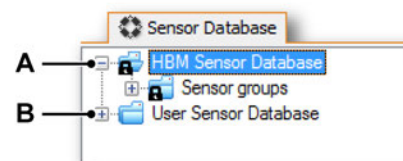

Figure 2.10: Sensor Database (Separated view)
- The database view, in which the Master Database and User Database are separated into different groups (see Figure 2.10).